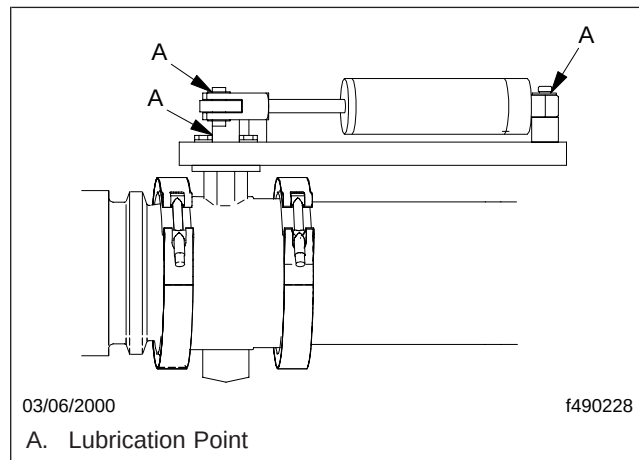

Fig. 7.2, Pacbrake Exhaust Brake and Air Cylinder
1. With the engine shut down, use any oil-free or non-petroleum based high-heat lubricant and spray or coat a sufficient amount on the restrictor valve shaft and the attaching locations at each end of the actuation cylinder. See **Fig. 7.2**.